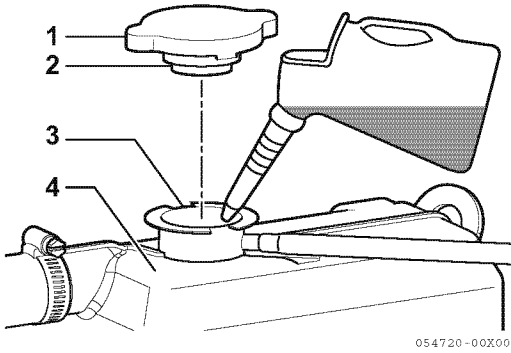

Figure 11
4. Pour coolant slowly into the coolant tank / heat exchanger (**Figure 11, (4)**) to avoid air bubbles. Fill until coolant overflows from the filler port.
5. Align the filler cap tabs (**Figure 11, (1)**) with filler port notches (**Figure 11, (3)**) and tighten the filler cap (**Figure 11, (2)**) .